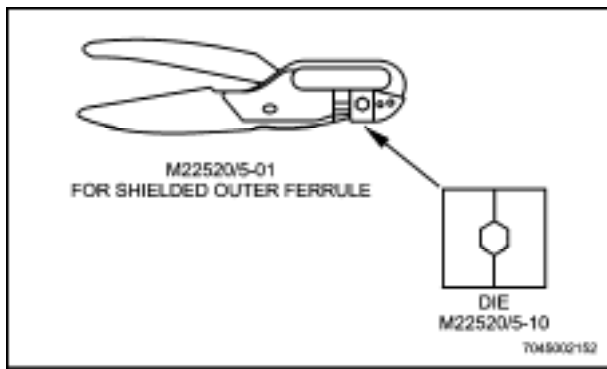

Figure 12-46 Crimping Tool for Shielded Outer Ferrule
- h. Crimp the outer ferrule with M22520/5-01 tool and M22520/5-10 die. See Figure 12-46.